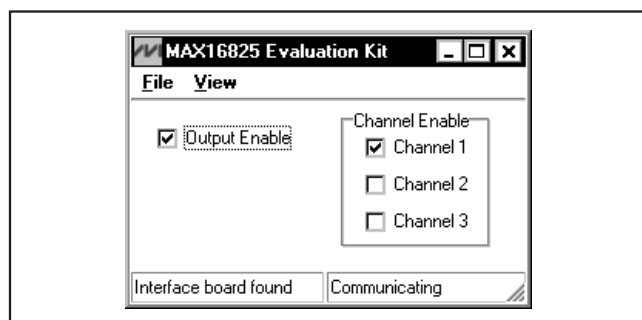

Figure 1. MAX16825 Evaluation Kit Software—Graphical User Interface (GUI)
- 12) Start the EV kit software by opening its icon in the **Start | Programs** menu. The MAX16825 EV kit software main window appears, as shown in Figure 1.
The main window's GUI (Figure 1) is simple to use. A mouse or the keyboard's tab key is used to navigate through the controls. The correct SPI write operation is generated to update the internal registers of the MAX16825 when any of these controls are used.